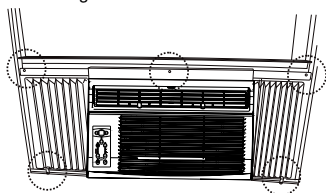

Fig.8
B. Drive 3/4" (19 mm) or 1/2" (12.7 mm) locking screws through frame holes into window sash (Fig.8).